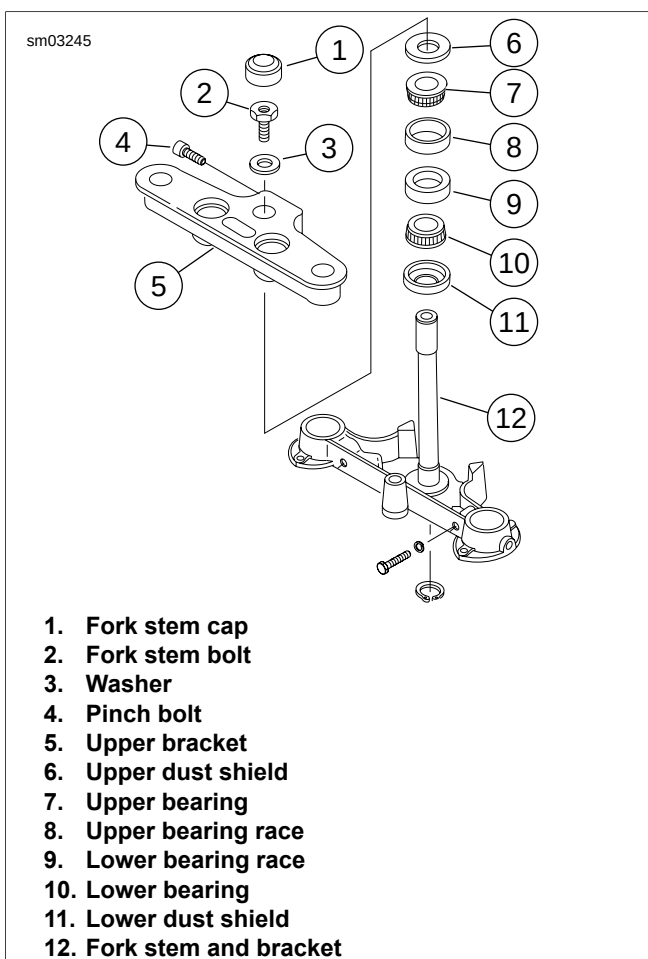

Figure 2-76. Steering Head: FLSTC, FLSTF/B, FLSTN, FLS
4. See Figure 2-76. Remove the brake hose bracket from the bottom of the fork stem and bracket (12).
5. Remove the fork stem cap (1). Loosen pinch bolt (4) and remove fork stem bolt (2). Remove washer (3) with the handlebar and upper bracket (5) assembly.
6. Remove the fork stem and bracket (12) from the steering head. Remove the upper dust shield (6).
7. Remove upper bearing (7).
1. See Figure 2-76. Insert the fork stem and bracket assembly (12) (with lower dust shield and bearing) into the frame steering head. Install the upper bearing (7) and dust shield (6).
2. Install the upper bracket (5), a **new** washer (3), and fork stem bolt (2). Tighten the fork stem bolt until the bearings have no noticeable shake. Fork stem must turn freely from side to side.